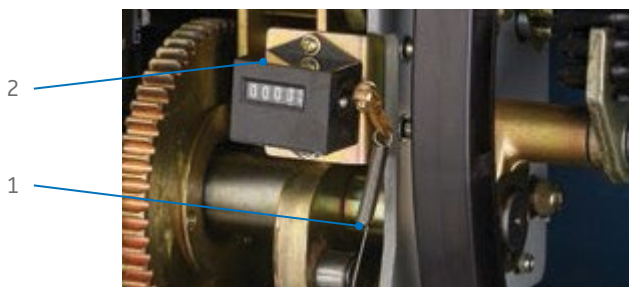

Figure 28: Removal and Replacement of Counter
As shown in Figure 28, disconnect tension spring (2) and remove screw (1), the counter can be removed.